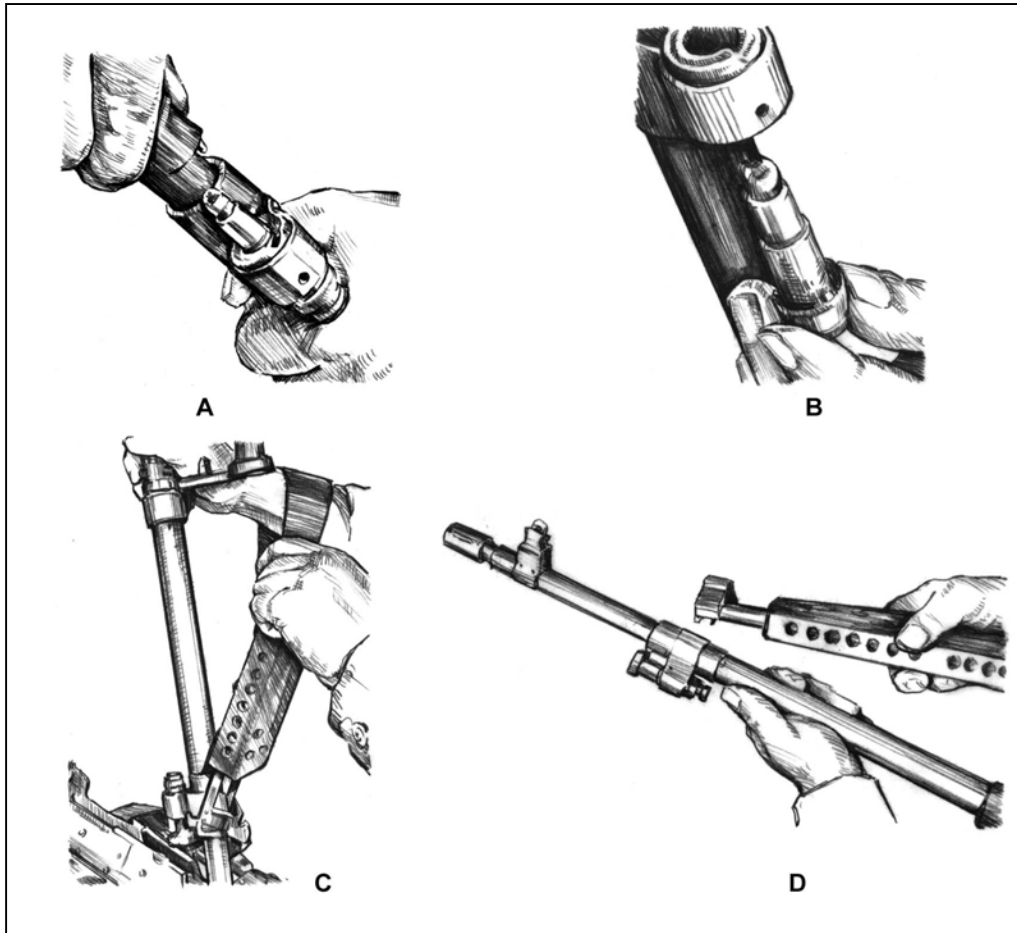

Figure 3-19. Gas regulator and collar.
g. **Disassemble the Barrel Assembly.** (A) Hold the barrel at the point where the gas system attaches to it. (B) Grasp and rotate the gas collar clockwise until it releases from the gas plug. Remove the collar from the gas plug. (C) Slide the gas regulator plug from front to rear, removing it from the gas hole bushing. (D) Remove heat shield. Lift the rear of heat shield assembly off the barrel, then pry one of the front metal tabs out of hole on gas hole bushing, rotate the heat shield towards the other metal tab, and remove heat shield from the barrel. This completes the general disassembly (Figure 3-19, page 3-18).